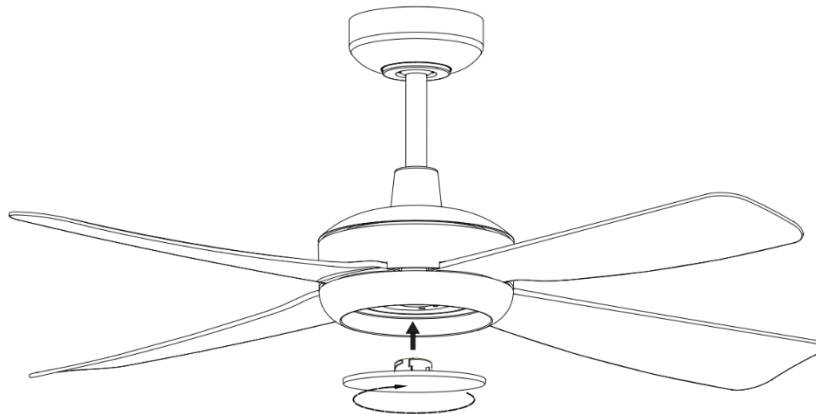

Fig. 8
INSTALLATION OF BOTTOM COVER (Fig. 8)
•If no lamp is required, Install the bottom cover to the fan assembly then secure it by turning clockwise. (Fig.8)